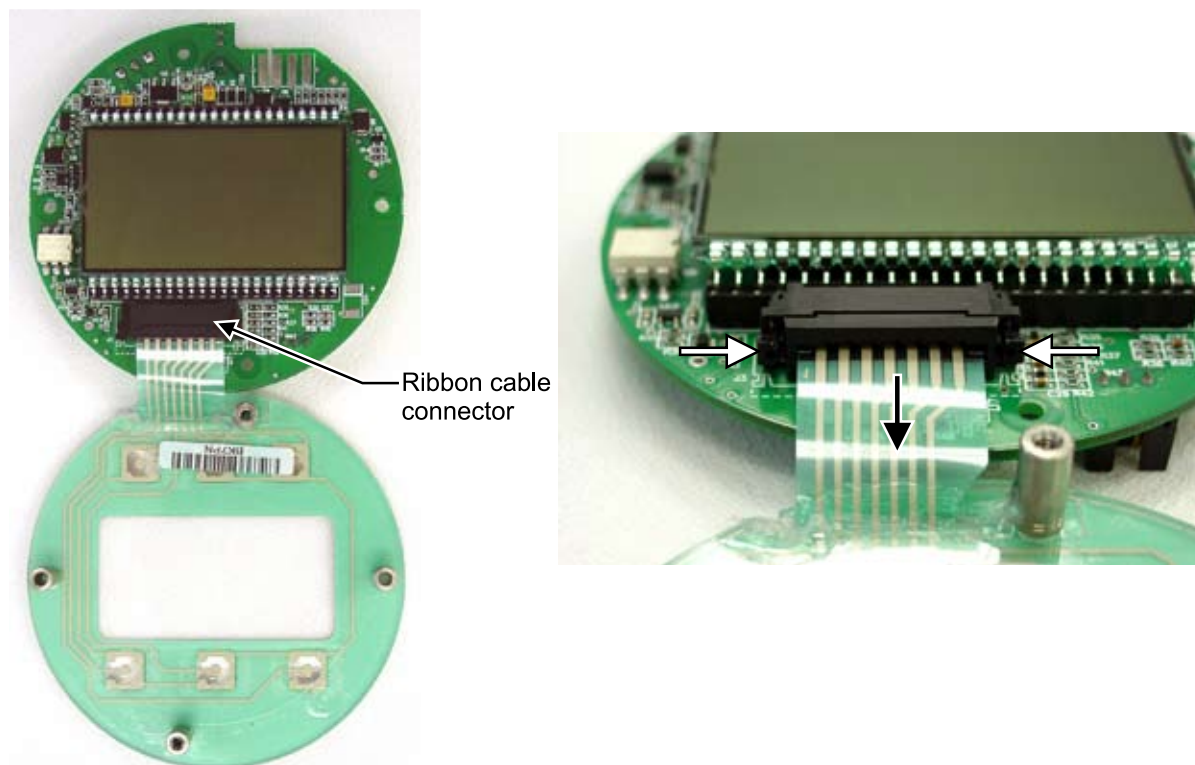

Figure 6.6—To release the ribbon cable from the connector, press in on the side tabs of the connector (white arrows) and gently pull forward (black arrow).
- a. Grasp the black clip between a thumb and forefinger (see white arrows in Figure 6.6 below).
- a. Grasp the black clip between a thumb and forefinger (see white arrows in *Figure 6.6*, page 90).